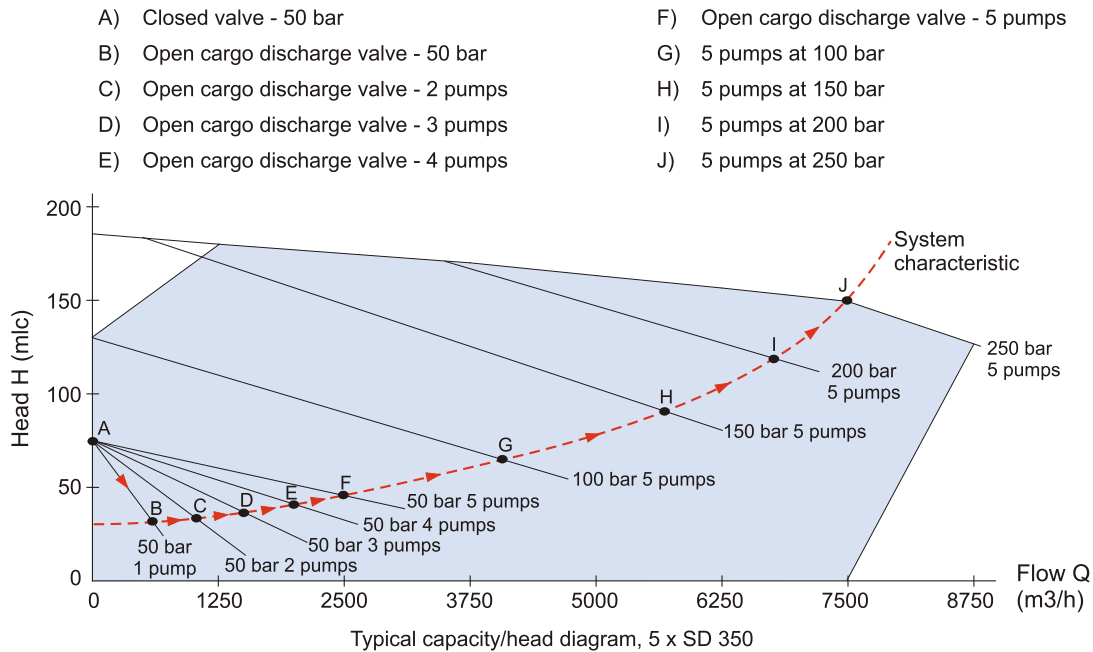

Fig. 13
- 3) Start the first pump and set the pump hydraulic motor pressure to 50 bar for 2 minutes. Ref. fig. 13 pos. A.
Ref. fig. 13 pos. B.
- 5) Start the next pumps, one by one, following the same procedure. Ensure that enough hydraulic power is available for the pumps to be run in parallel. Ref. fig.13 pos. C→F
- 7) Gradually increase the hydraulic system pressure (and thereby pump speed) until required discharge pressure or rate is achieved. Ref. fig. 13 pos. G→J